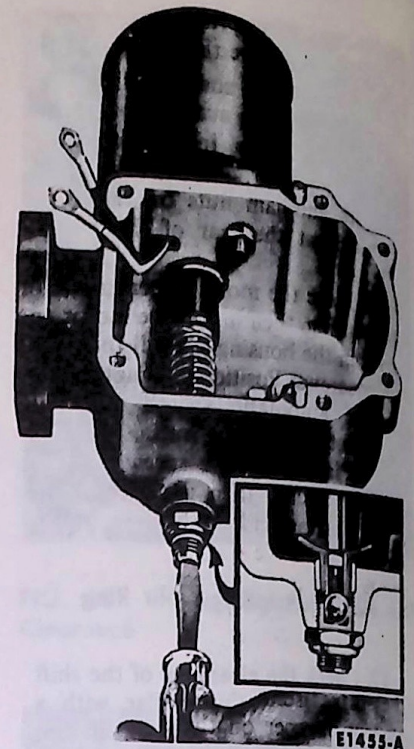

FIG. 48 Adjusting Worm Shaft
4. Place the ball bearing in the recess of the adjusting screw, and turn in the adjusting screw until the ball bearing is snug against the end of the worm shaft assembly (Fig. 48). Back off the adjusting screw 1/8 turn for proper adjustment.